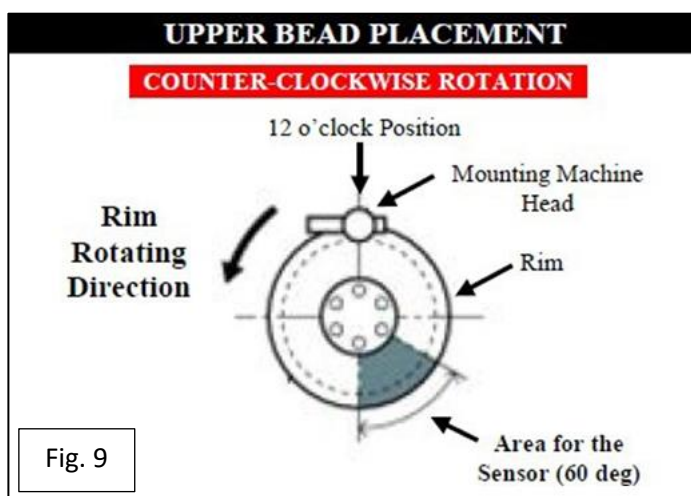

Fig. 9
- d) Re-position the wheel on the mounting machine with the sensor at ~ 5 o'clock position. See Figure 5b (Shaded Area). Figure 9.